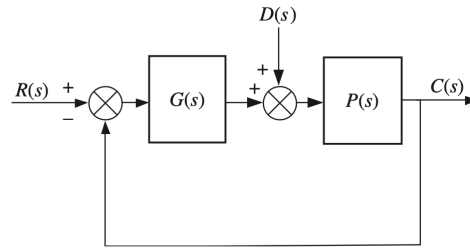

FIGURE P7.16
4. In Figure P7.16, let $G(s) = 5$ and $P(s) = \frac{7}{s+2}$.